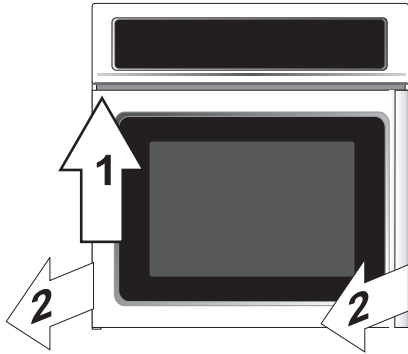

Figure 6
- 6.1.2. Support and lift up the door such as to clear the lower hinge pin (Figure 6).